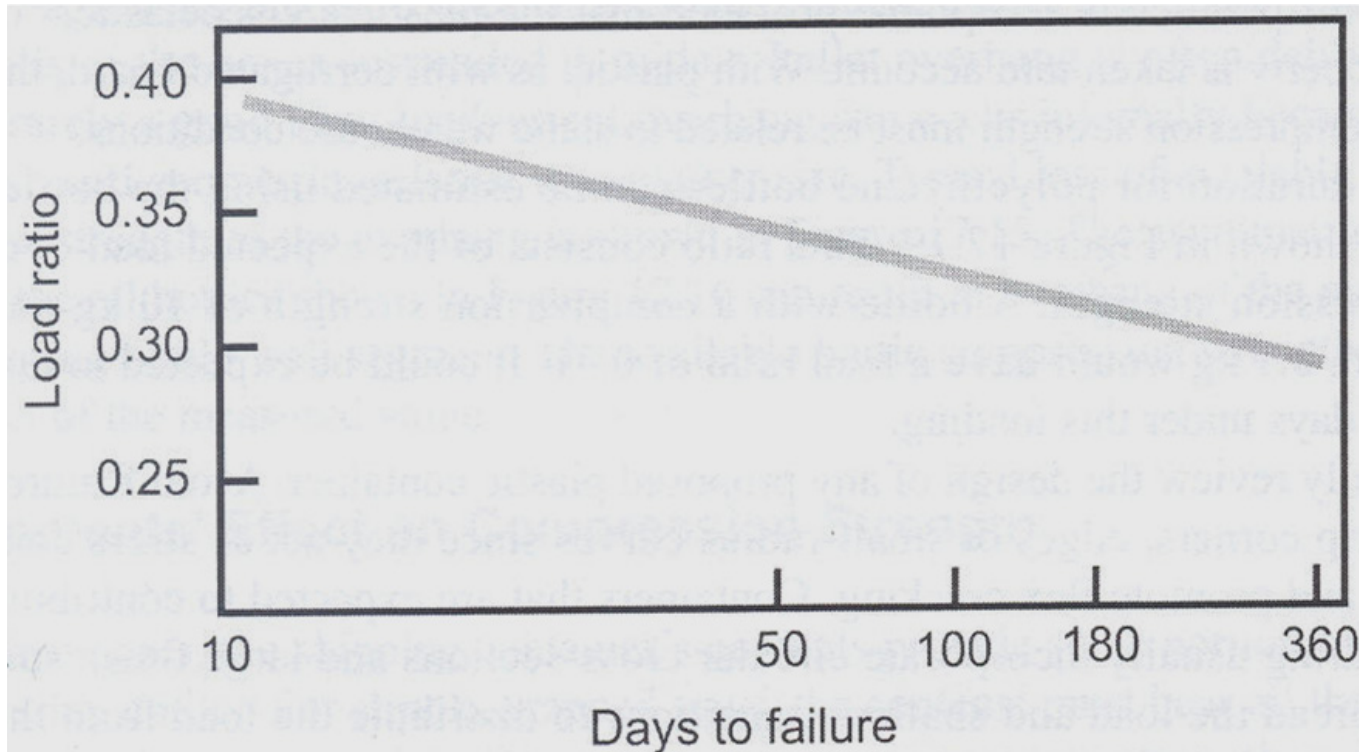

Figure 12.18 Warehouse stacking and load ratios for polyethylene bottles
- Stack duration for PE bottles can be estimated using the bottle load ratio shown in Figure 12.18: